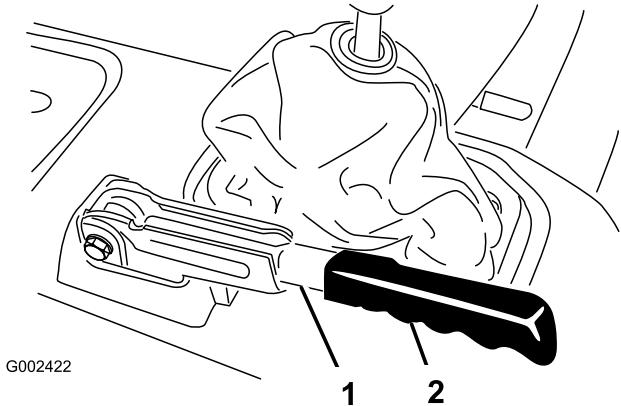

Figure 52
1. Remove the rubber grip from the parking brake lever (Figure 52).